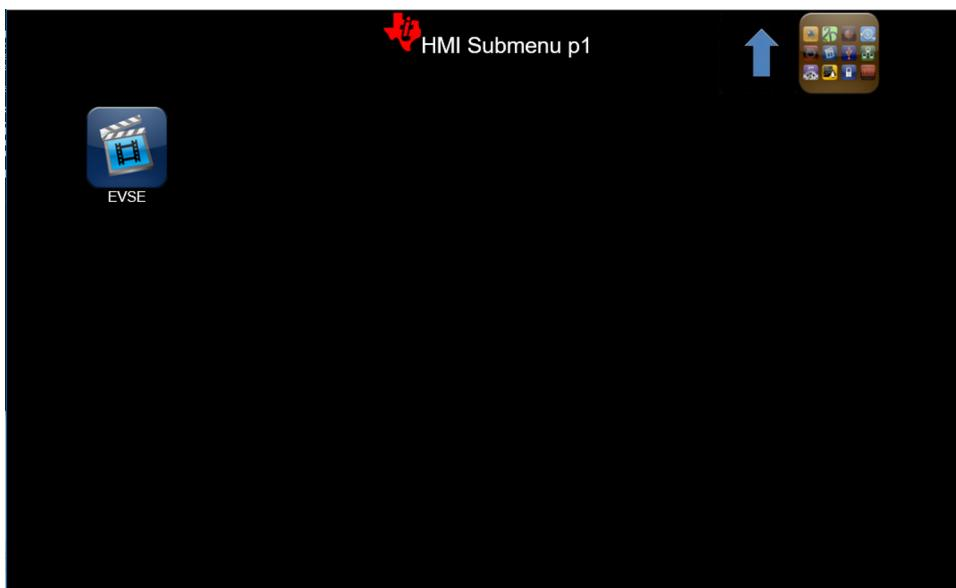

図 7. HMI Submenu
2. 図 7 shows the HMI Submenu, which is the next screen that appears. Click on the *EVSE* icon.